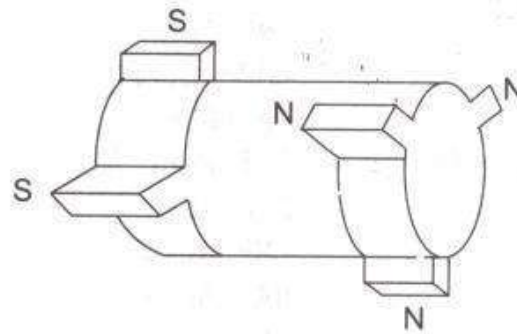

Fig.3 Stepper motor rotor
- ☐ Fig.3 shows conceptual positioning of the rotor teeth on the surface of rotor, for a six teeth rotor.